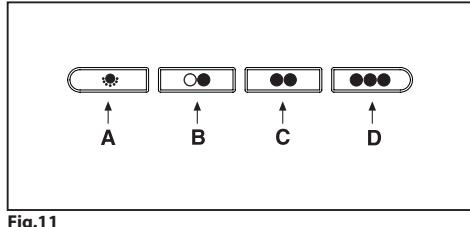

Fig.11
- **Mechanical controls (Fig.11)** the symbols are as follows: